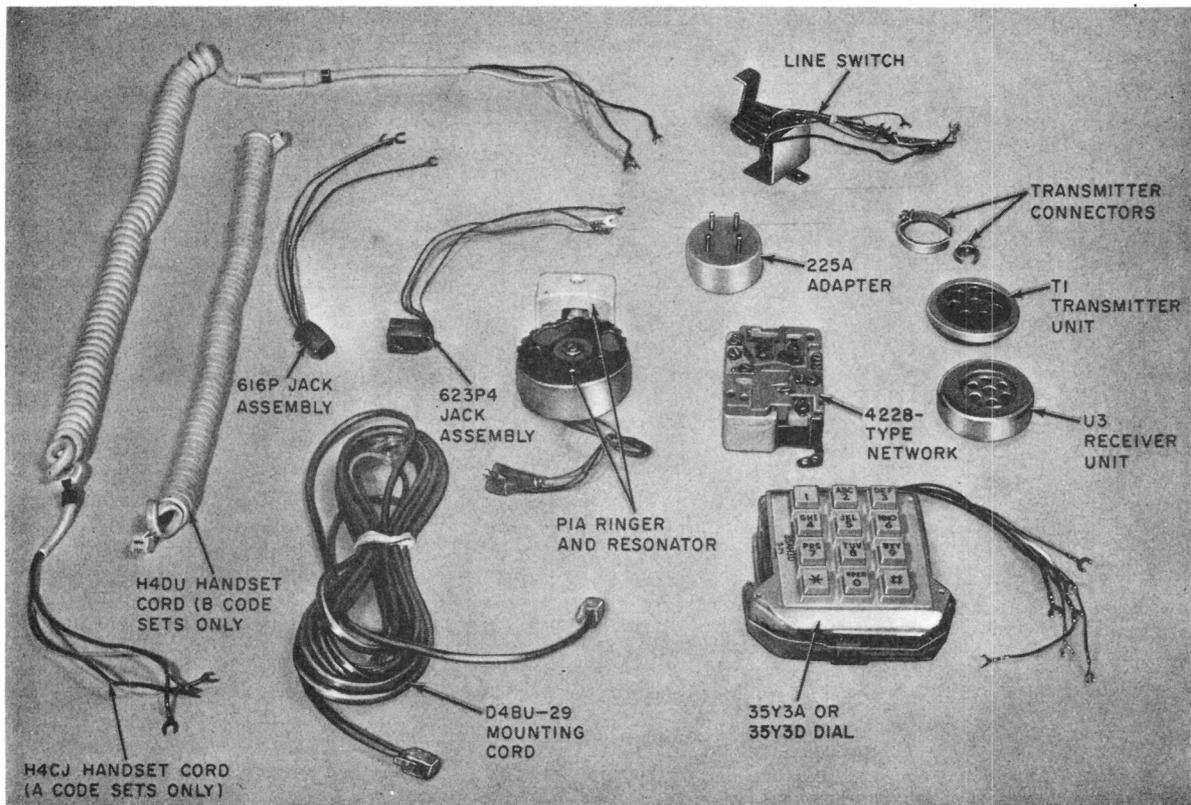

Fig. 5—Telephone Company-Owned Components (Set Equipped With TOUCH-TONE Dial)
**Note:** Remove the telephone company-owned components that can be easily removed. Refer to Fig. 5 and 6 for identification of company-owned components.